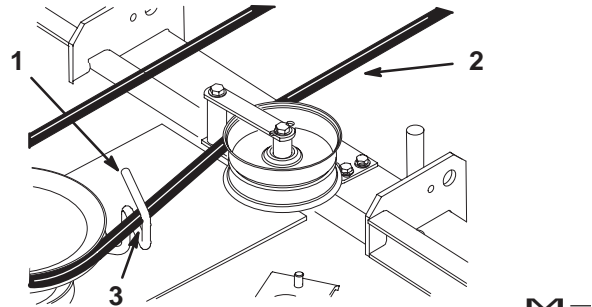

Figure 64
- Rotate the belt guide, on rear of the mower, so it is 1/8–1/4 in. (3–7 mm) away from the vertical side of the PTO belt (Fig. 64).